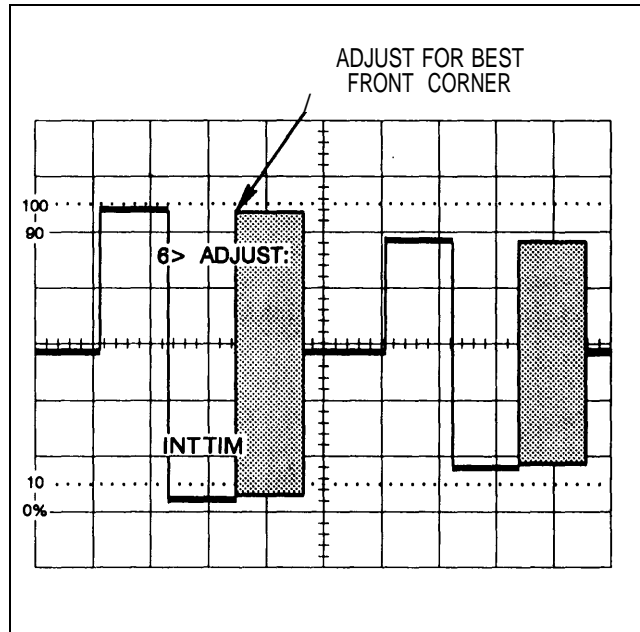

Figure 5-3. Integrator Time adjustment pattern.
- ac. ADJUST– R620 Int Adj (Integrator Time control) for best front corner (minimum roll-up or roll-off) of the high-frequency (filled) portion of the display. See Figure 5-3 for further detail.